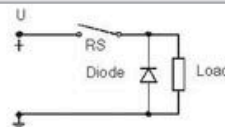
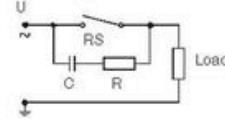

Fig. 1
Fig. 2
Contact protection is relatively simple for direct current (DC). A free-wheel diode is wired parallel to the load. Polarity must be established in such a way that the diode will inhibit at normal operational voltage (current) and short-circuit the power peaks which occur in the opposite direction when the switch opens. (see fig. 1). It is not possible to use a diode for AC. Here an arc-dimming unit has to be used. Generally this unit is a RC-unit wired parallel to the switch and hence in series with the load. Sizing of such an arc-dimming unit can be performed according to the nomogram shown in fig. 2 and 3.